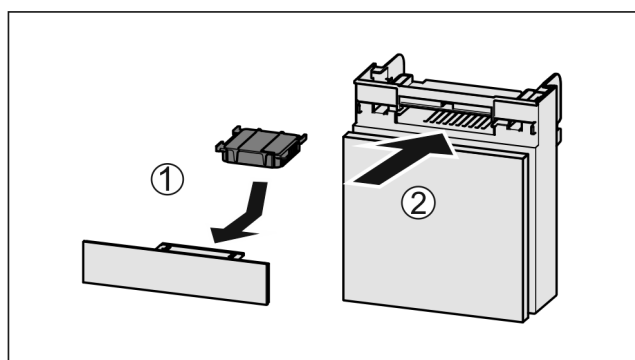

Fig. 52
- Insert the carbon filter as shown in the diagram Fig. 52 (1).
- Push the compartment in Fig. 52 (2).